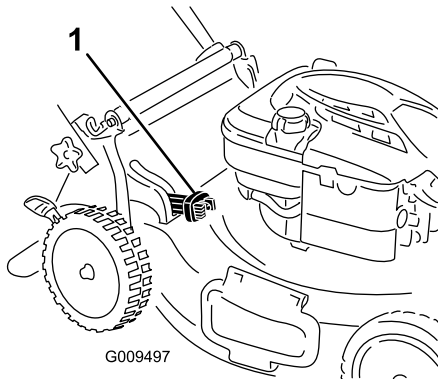

Figure 19
- **To bag the grass and leaf clippings**, press the button on the bag-on-demand lever and move the lever forward until the button on the lever pops up (Figure 19).
Note: If the grass bag is on the machine, remove it before rear-discharging the clippings; refer to Removing the Grass Bag \(page 12\). The bag-on-demand lever should be in the BAGGING position as shown in Figure 19.